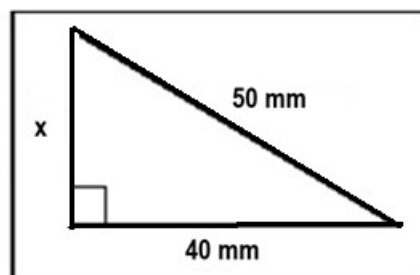

FIGURE 4.13
4.13 What is the value of **X** in Figure 4.13?